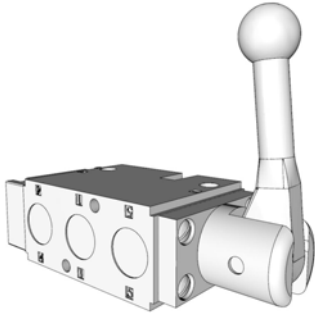

FIG. 68
- Normal Position: allows free-spool rotation (FIG. 68).